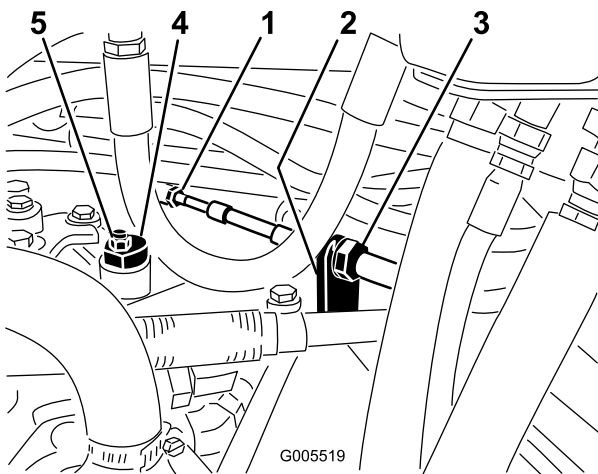

Figure 54
- A. Loosen both jam nuts securing the traction control cable to the bulkhead on the hydrostat (Figure 54). Make sure the jam nuts are loosened equally and sufficiently to allow adjustment.
**Note:** Loosen the nut securing the eccentric to the top of the hydrostat (Figure 54).
adjustment (Figure 54). Verify the adjustment with the throttle in the Slow and Fast position.
- D. From each side of the bulkhead, tighten the locknuts evenly, securing the traction cable to the bulkhead (Figure 54). Do not twist the cable.